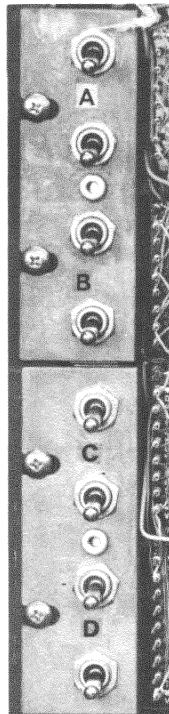

Figure 5-4 Marginal Check Switches on DEC Logic Package
5.6.2.1 Marginal Checking Procedure - The following instructions outline the methods recommended for performing marginal checks on the TU30 DEC Logic Package. The marginal checking switches on the DEC Logic Package are shown in Figure 5-4.
- e. With reference to Figure 5-4, place the +10V margin switch (the upper toggle switch) on panel rack A in the ON position.